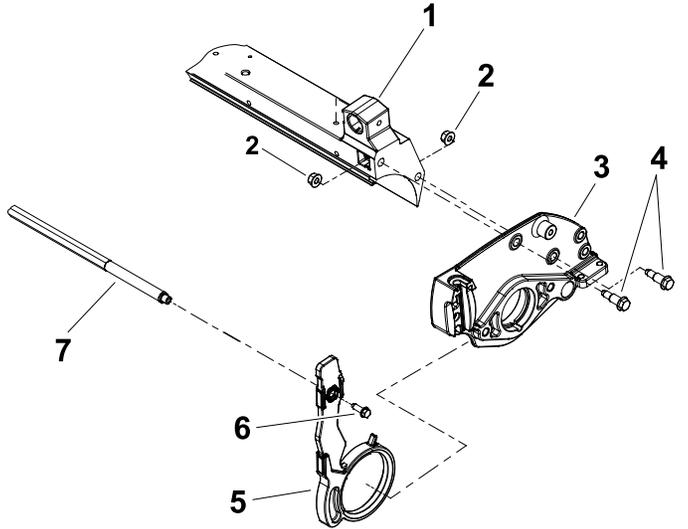

Figure 12
2. Carefully slide the side plate with the new pitch arm onto the cutting reel assembly (Figure 12).
3. Install the shoulder bolts and flange nuts to secure the side plate to the crossmember (Figure 12).
5. Position the crosslink to the pitch arms and secure with 2 washer-head screws (Figure 12).